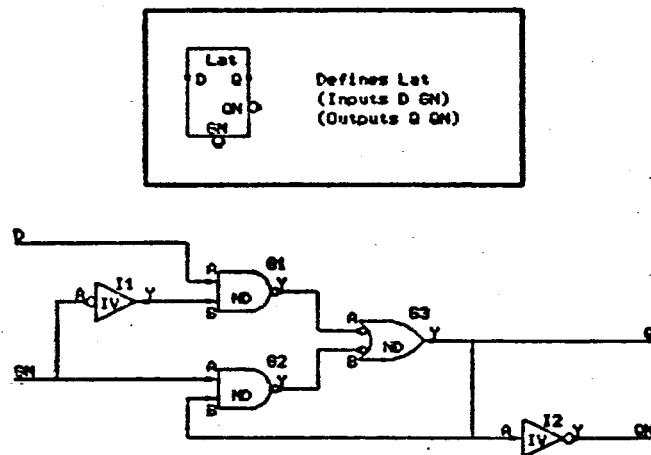

Figure 3
Figure 3 shows an implementation of Lat using inverters (IV) and nand gates (ND).